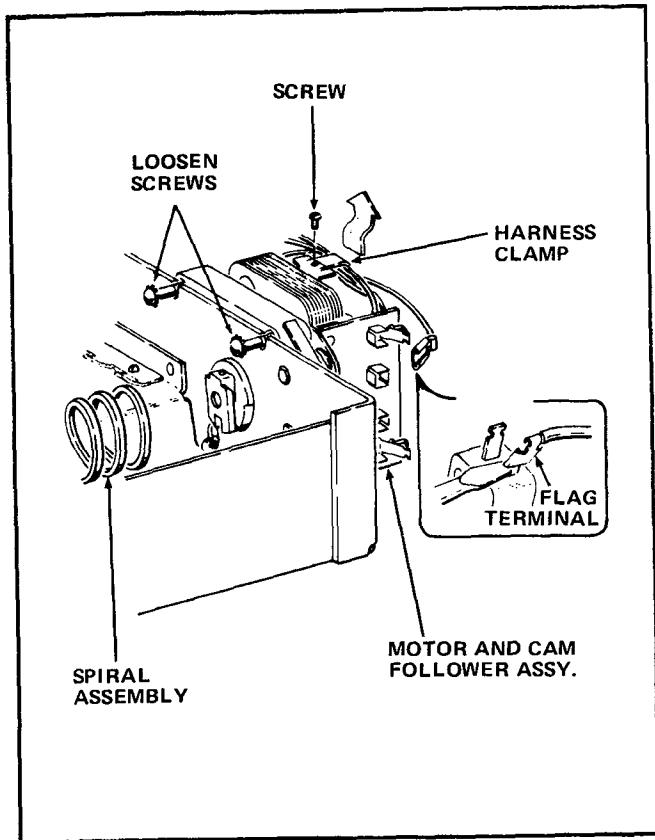

FIGURE 2
4. Remove the Screw which attaches the Harness Clamp. See Figure 2.
5. Remove the Spiral Assembly. See Figure 2.
6. Loosen the two Screws which attach the Motor and Cam Follower Assembly. See Figure 2.
8. Removal all Flag Terminals from the Follower and Terminal Assembly and the Switch. Insert a thin-bladed screwdriver beneath the terminal and push or pull with a rocking motion to remove. Spreading the Terminal makes reuse impossible. See Figure 2. Be sure to retain the black jumper wire which connects the NO terminal of the Switch to the Follower and Terminal Assembly.
8. Attach the Harness Clamp and Screw, removed in Step A-4, to the Vend Motor Bracket. See Figure 2.
11. Position the Motor and Cam Follower Assembly on the Tray and tighten the two attaching Screws. See Figure 2.
12. Install the Spiral Assembly removed in Step A-5. See Figure 2.